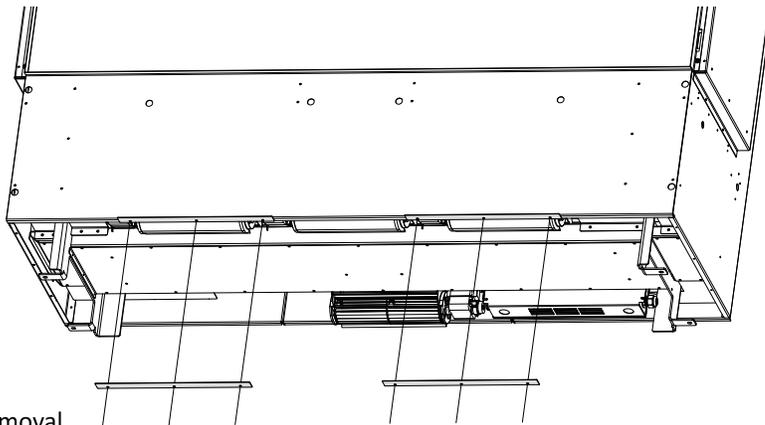

Figure 1.10 - Finishing Bracket Removal
Requirement #1 - The fireplace comes with two finishing edge brackets preinstalled at the bottom of the fireplace for the air intake opening. Since you are moving the air intake opening to a position lower than the fireplace you will have to remove the two bottom finishing edge brackets. Each bracket is held on with (2) sheet metal screws. Once removed you can discard. See Figure 1.10.